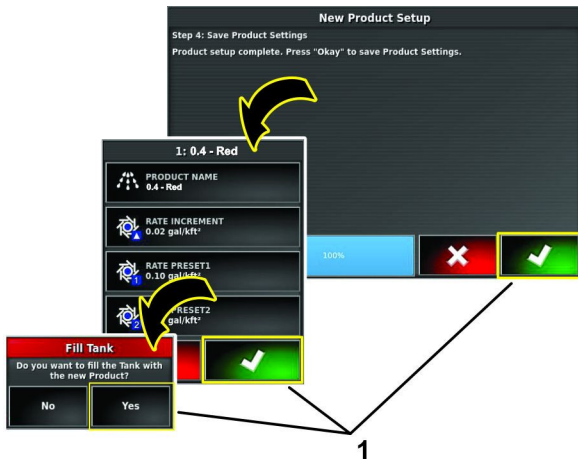

Figure 122
16. On step 4 of the new product setup dialog box, confirm icons (Figure 122).
17. If you are filling the tank, in the fill tank dialog box, press the YES icon (Figure 122).